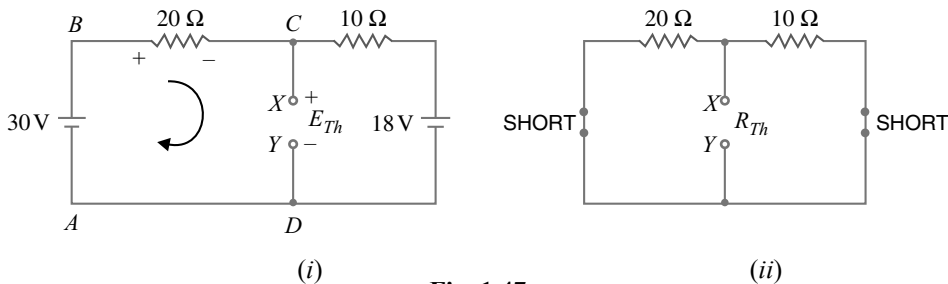

Fig. 1.47
**Finding Thevenin Equivalent circuit.** To find  $E_{Th}$ , refer to Fig. 1.47 (i). Since  $30 \text{ V}$  and  $18 \text{ V}$  sources are in opposition, the circuit current  $I$  is given by ;
To find  $R_{Th}$ , we short both voltage sources as shown in Fig. 1.47 (ii). Notice that  $10 \Omega$  and  $20 \Omega$  resistors are then in parallel.